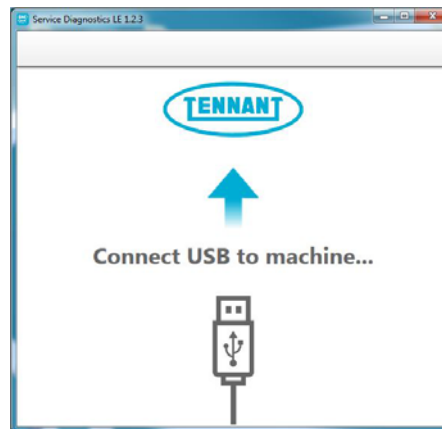

Fig. 39
1. Start the Service Software Application program. After start up, the following screen will appear (Figure 39).